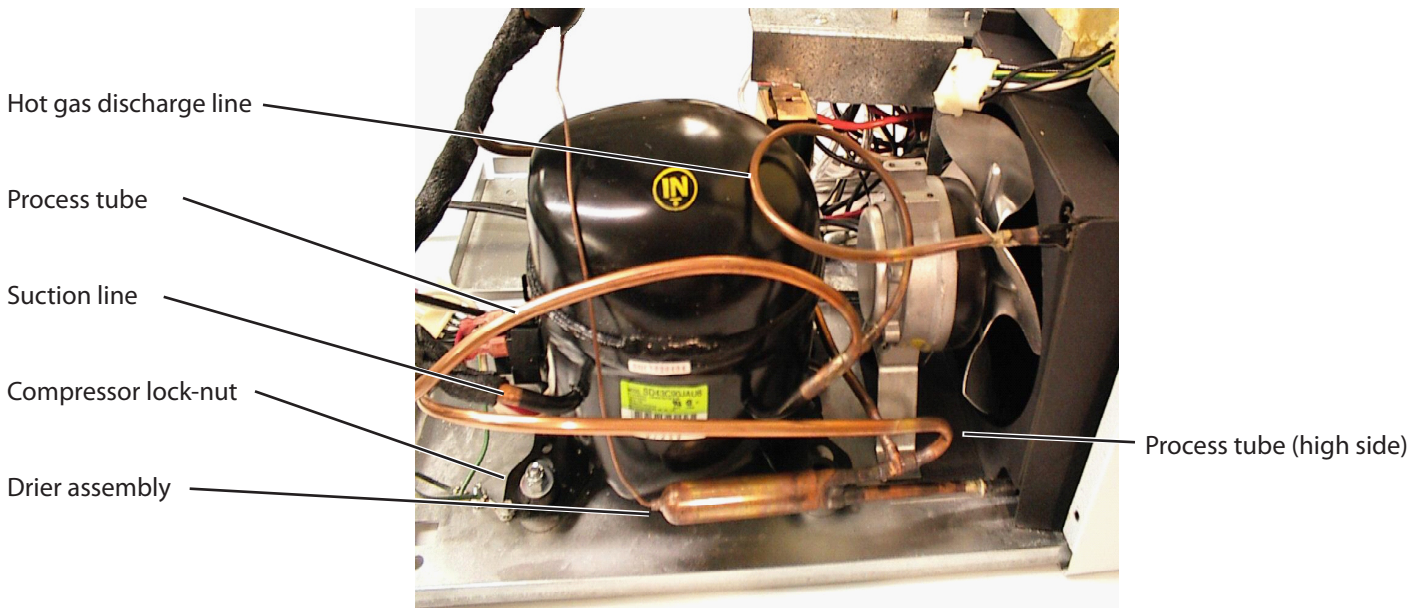

Figure 3.8
25. Unbrazed and remove the suction line at the compressor (see Figure 3.8).
26. Unbrazed the hot gas discharge line at the compressor (see Figure 3.8).
27. Remove the compressor by removing the two lock-nuts on the mounting plate of the compressor. Lift the compressor off of the carriage bolts (see Figure 3.8).
15. Unbrazed and remove the suction line at the compressor (see Figure 3.8).
16. Unbrazed the hot gas discharge line at the compressor (see Figure 3.8).
17. Remove the compressor by removing the two lock-nuts on the mounting plate of the compressor (see Figure 3.8). Lift the compressor off of the carriage bolts.
15. Unbrazed the hot gas line from the compressor at the top of the condenser coil (see Figure 3.8).